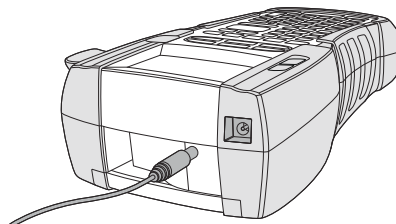

Figure 3
1. Plug the power adapter into the power connector on the top of the printer. See Figure 3.